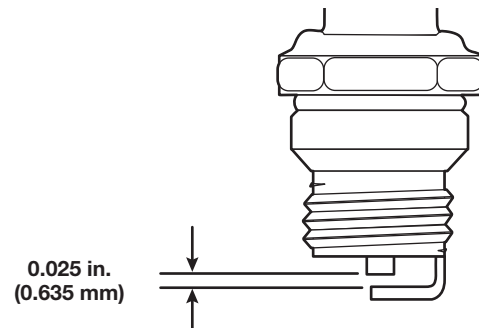

Fig. 46
7. Use a feeler gauge to set the air gap at **0.025 in. (0.635 mm)** (Fig. 46).